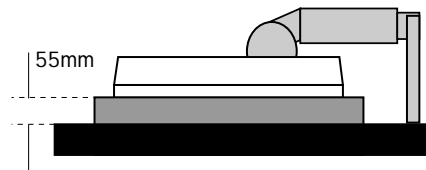

Figure S.1
3. Place monitor face down on a non-abrasive surface (Place the screen on a 55mm platform so that the stand is parallel with the surface.) (Figure S.1).